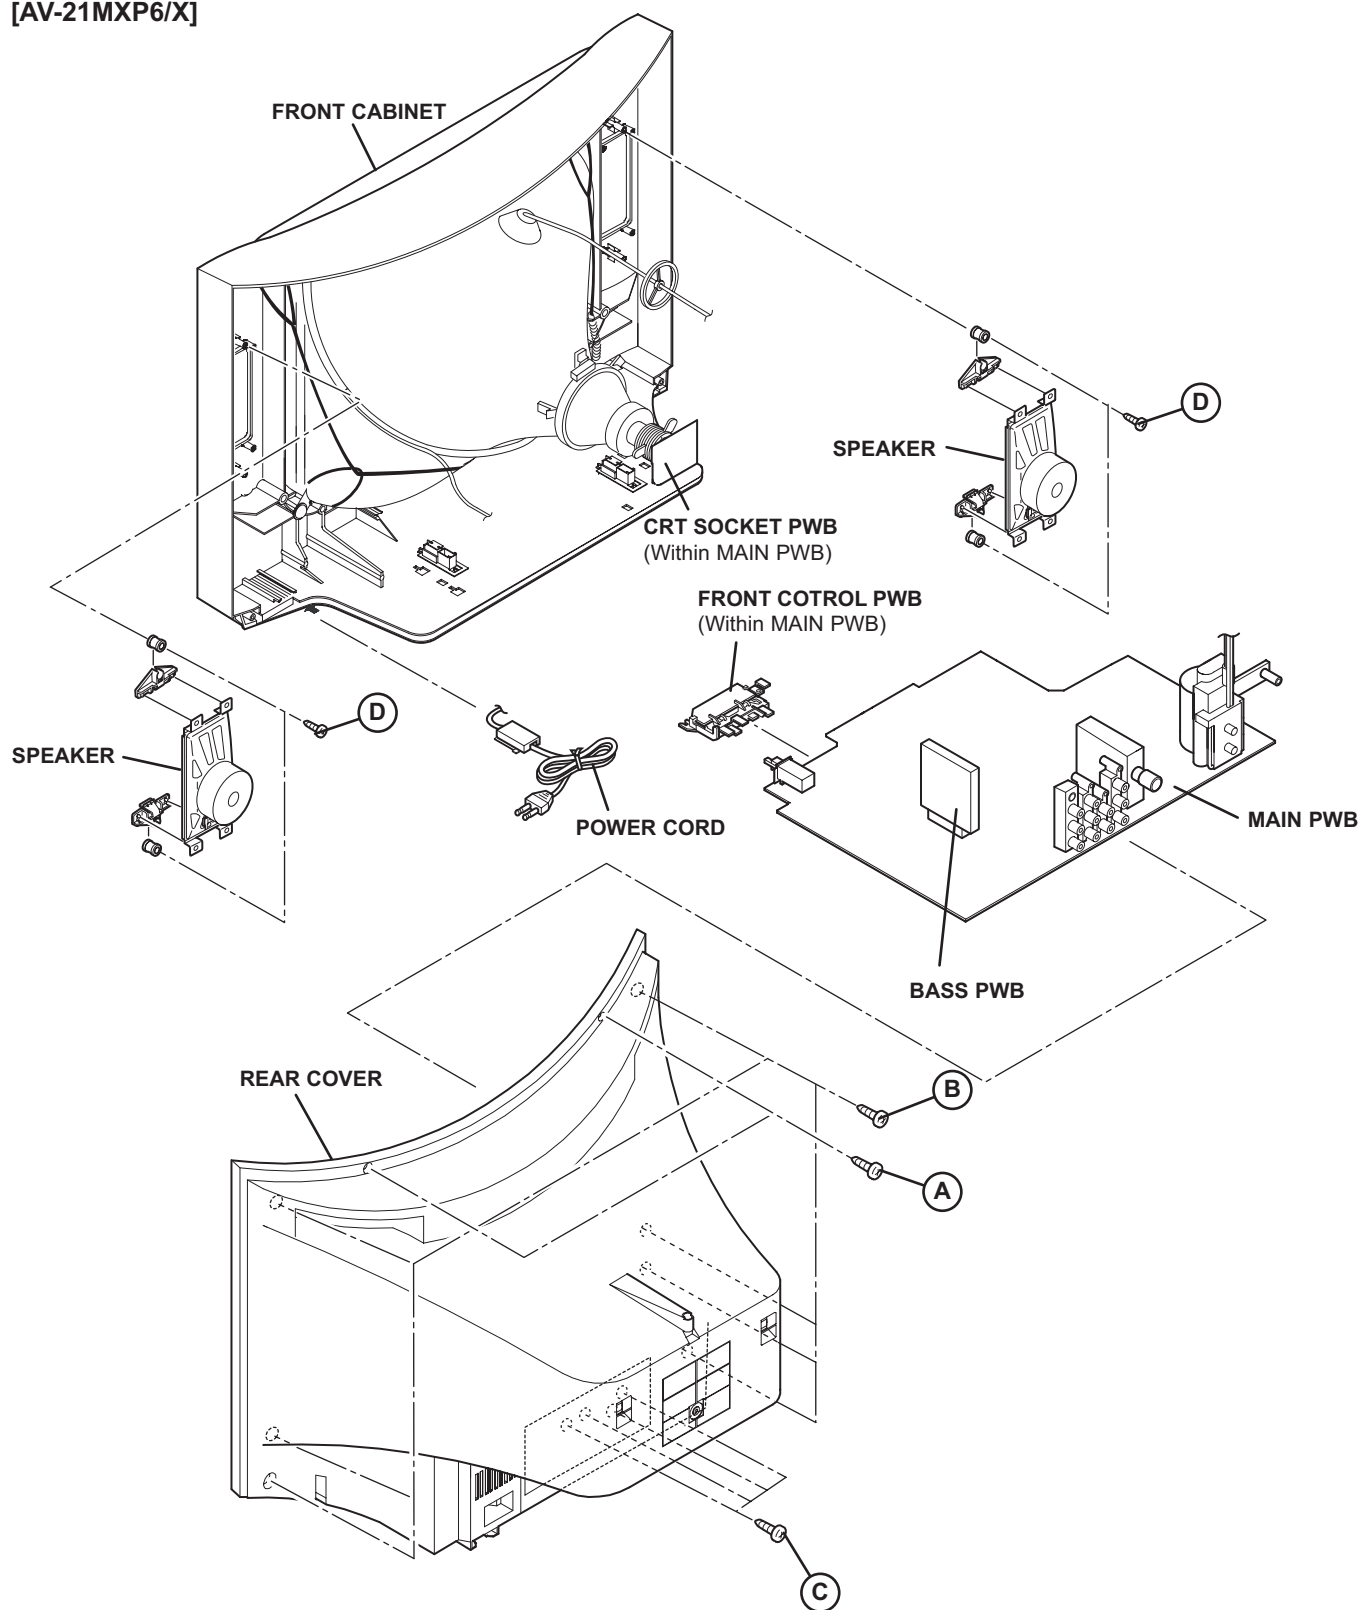

Fig.1
- (1) Remove the 2 screws [A], 7 screws [B] and 4 screws [C] as shown in Fig.1.
- (2) Withdraw the REAR COVER toward you.
- (1) Remove the 2 screws [D] as shown in Fig.1.
- (2) Follow the same steps when removing the other hand SPEAKER.